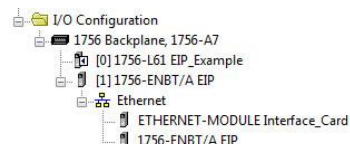

Figure 28: I/O Configuration Tree
- 6) After adding the I/O Module to the configuration, the full I/O Configuration tree should appear similar to Figure 28.